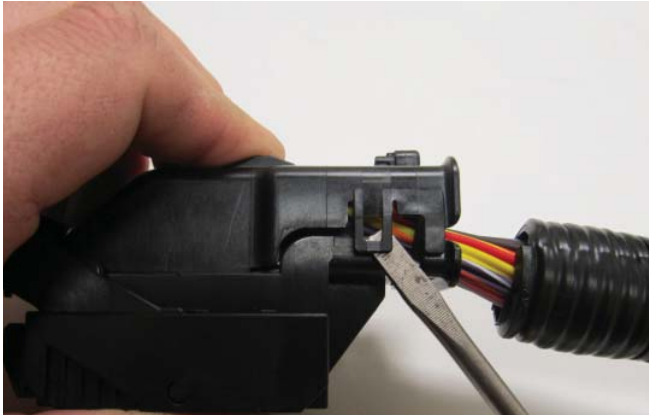

Figure 1
1. Unlatch the dress cover latch features on each side of the dress cover guide. A small screwdriver or similar tool can be used to release the latches. **Reference Figure 1.**